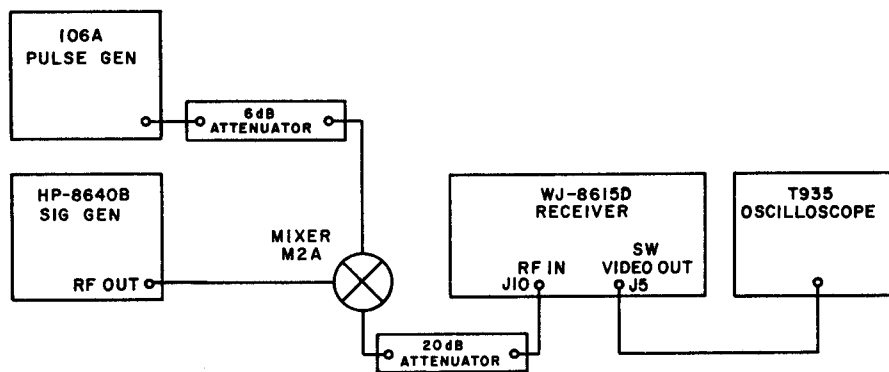

Figure 4-3. Pulse Operation Performance Test, Equipment Interconnections
- 1) Connect the test equipment as illustrated in **Figure 4-3**.